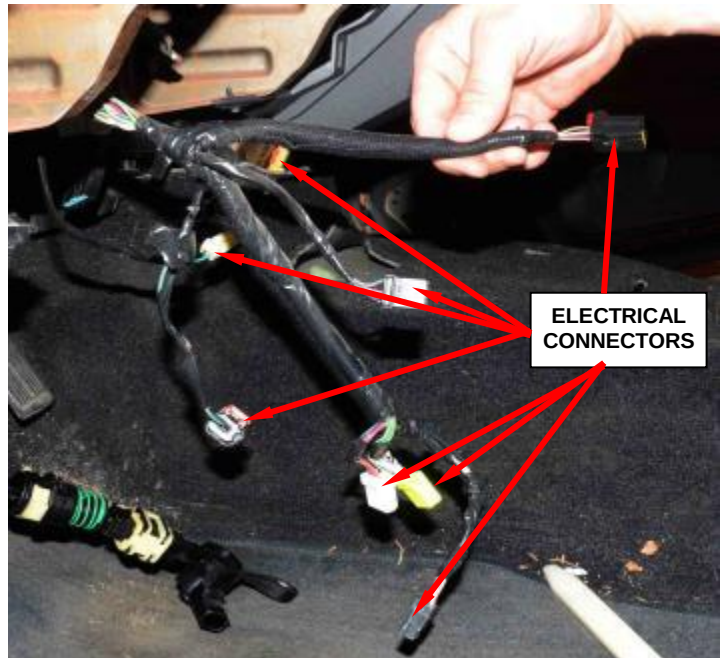

Figure 129 – Column Electrical Connectors
- d. Remove the screws that secure the floor console to the floor panel (Figure 129).